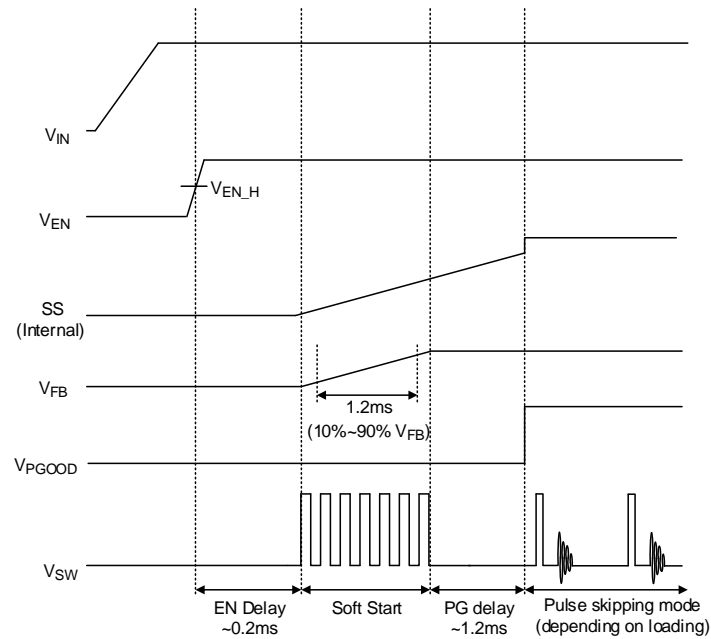

Figure 1. Power Up Sequence which is Following Internal Soft-Start
The enable input (EN) has a logic-low level of 0.74V. When VEN is below this level the IC enters shutdown mode and supply current drops to less than 1μA. When VEN exceeds its logic-high level of 0.92V the IC is fully operational. When VEN exceeds its logic-high level, the pre-regulator turns on first. The power up sequence from EN logic high to PGOOD go high is shown as Figure 1.